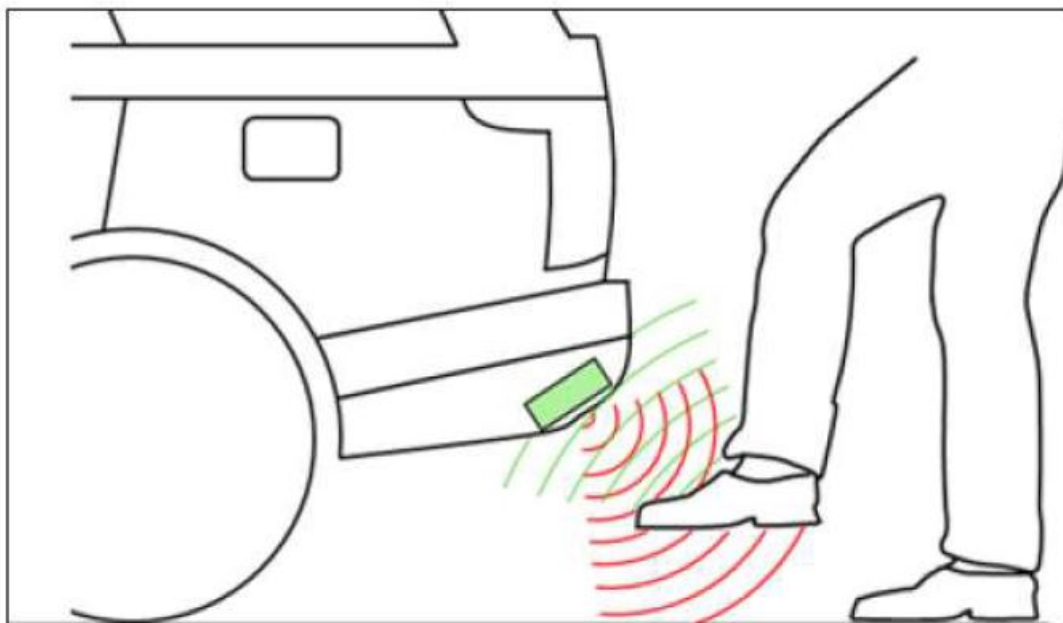

Figure 1 Performing the foot movement
Ensure that you maintain a separation distance of 20 cm from the kick-sensor during the foot movement. Refer to Figure 1 in the user manual for the location of the kick-sensor and foot performance.
2. Wave a foot under the vehicle in the direction of travel and immediately pull it back. Figure 1 shows location of the kick-sensor and foot performance.